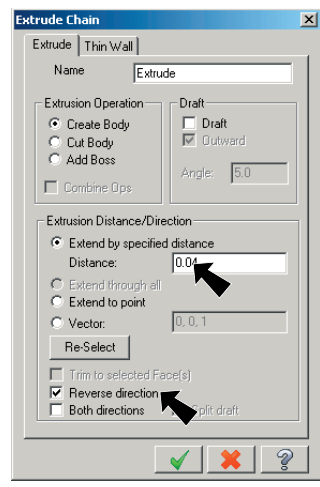

Fig. 12
- Step 7. The direction arrow on the chain should **point back to the left**, **Fig. 13**. If the arrow points in the wrong direction, check Reverse Direction in the Extrude Chain dialog box, **Fig. 12**.
- Step 8. Set **Distance to .04**, **Fig. 12**.
- Step 9. Click the OK button  in the Extrude Chain dialog box, **Fig. 12**.